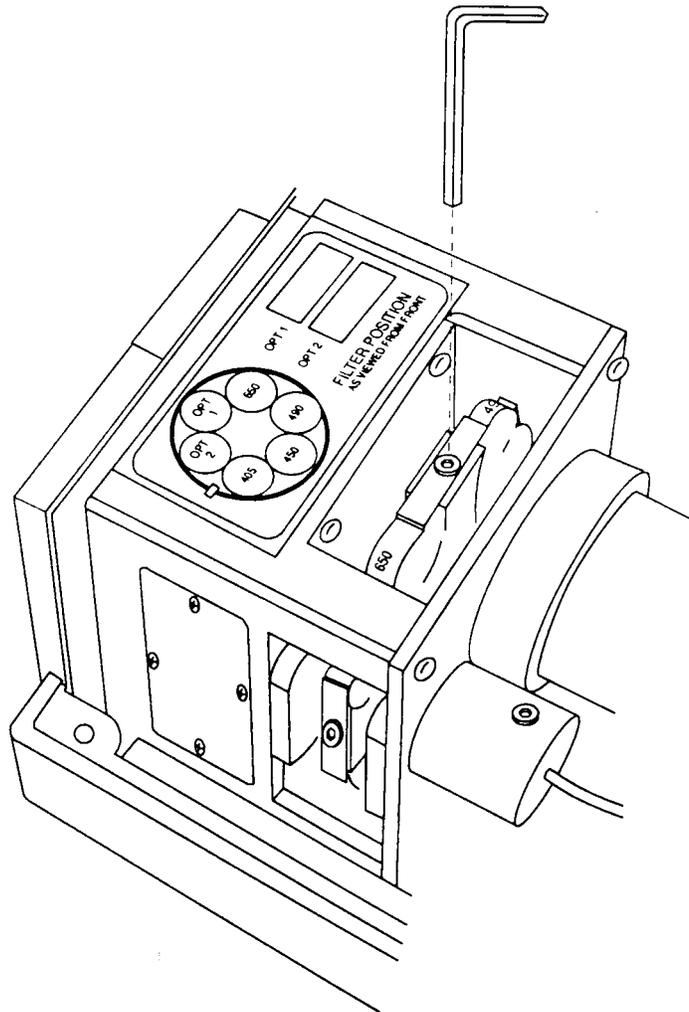

Figure 12: Filter Wheel Housing
- 2) Using a 3/32-inch hex wrench, LOOSEN the hex-head screw securing the bracket over the appropriate filter slot (about two full turns). Refer to Figure 12.